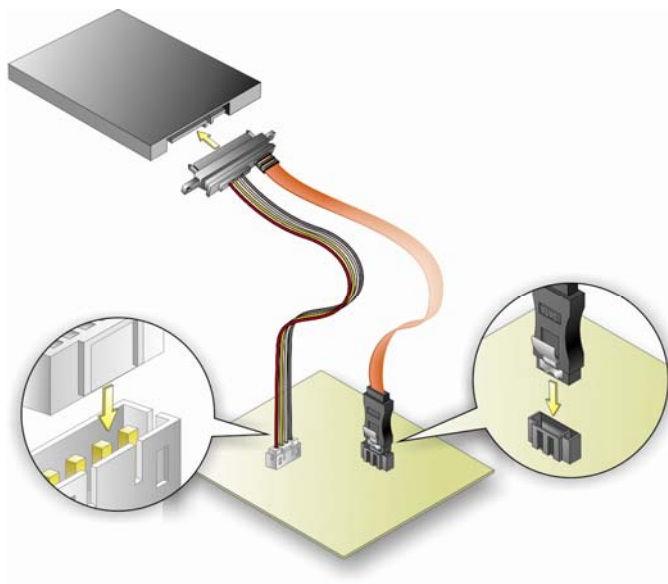

Figure 4-7: SATA Drive Cable Connection
Step 2: Insert the cable connector. Insert the cable connector into the on-board SATA drive connector and the SATA power connector. See **Figure 4-7**.
Step 3: Connect the cable to the SATA disk. Connect the connector on the other end of the cable to the connector at the back of the SATA drive. See **Figure 4-7**.